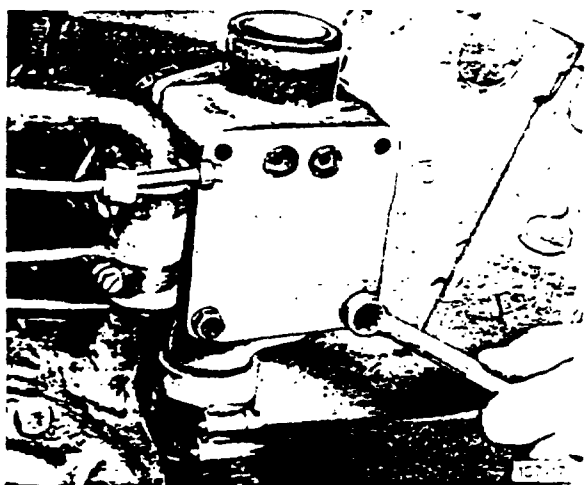

Figure 2-382. Lower Capscrews Location
3. Install the lower two capscrews in the thermostat housing. Torque to 12-14 lb.ft. See Figure 2-382.